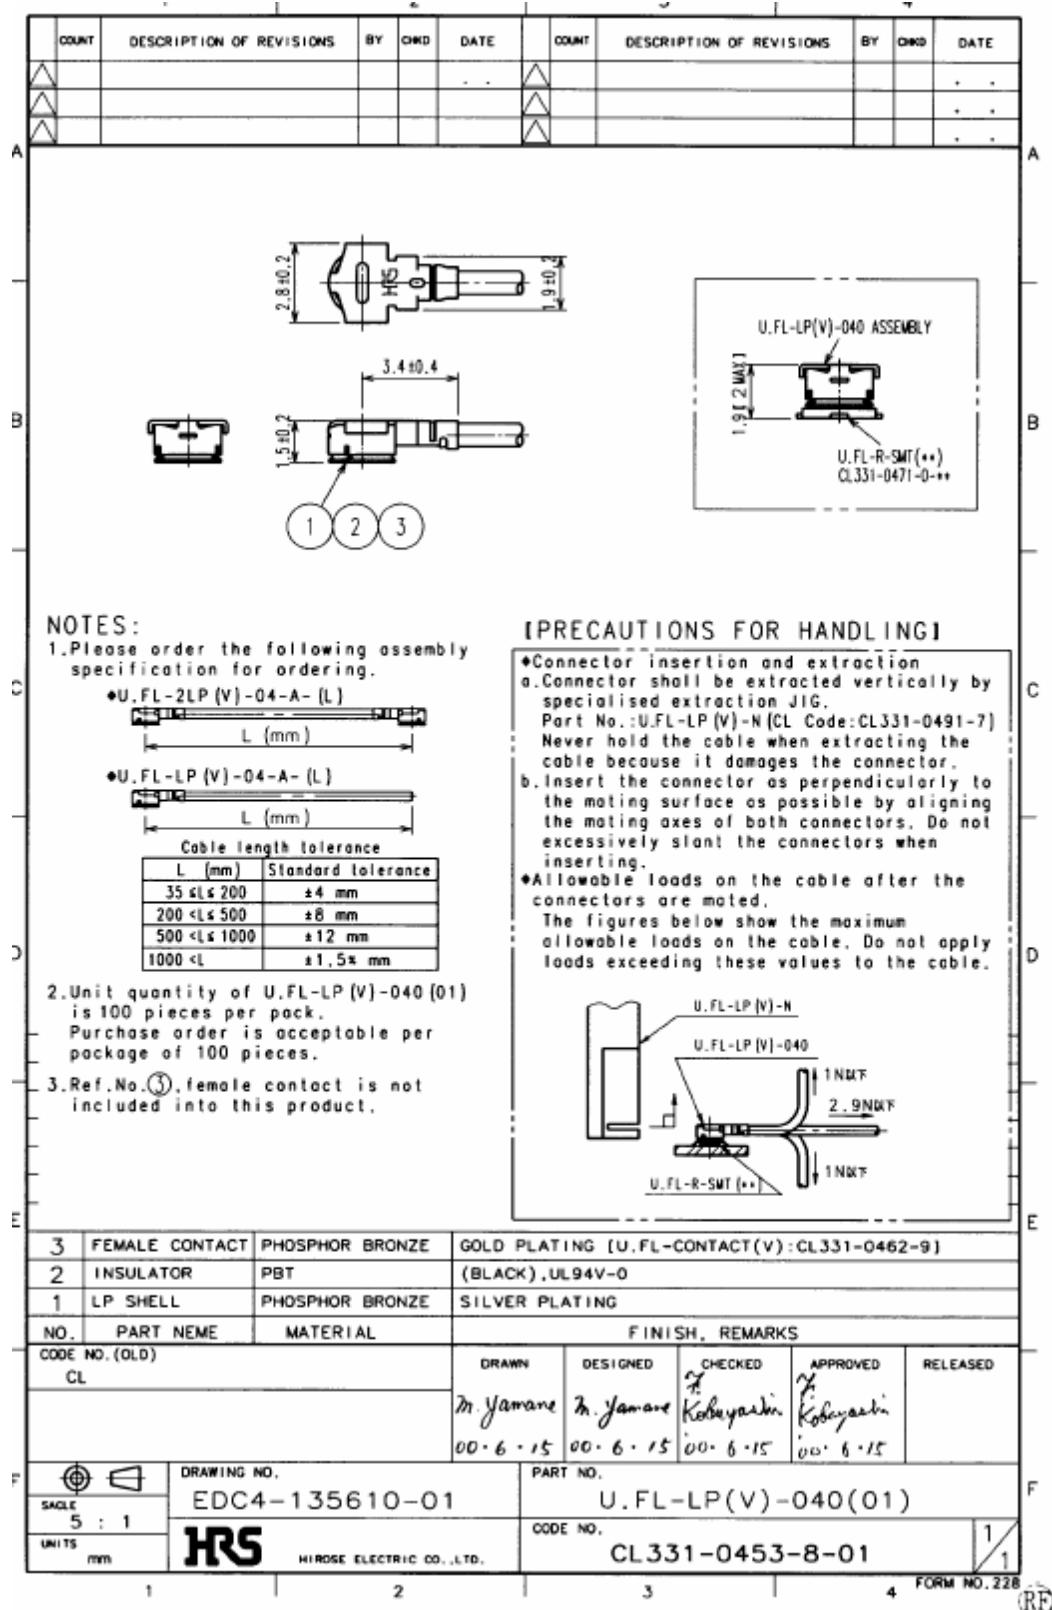

Figure 37: Specifications of U.FL-LP-(V)-040(01) plug
In addition to the connectors illustrated above, the U.FL-LP-(V)-040(01) version is offered as an extremely space saving solution. This plug is intended for use with extra fine cable (up to Ø 0.81mm) and minimizes the mating height to 2mm. See Figure 37 which shows the Hirose datasheet.